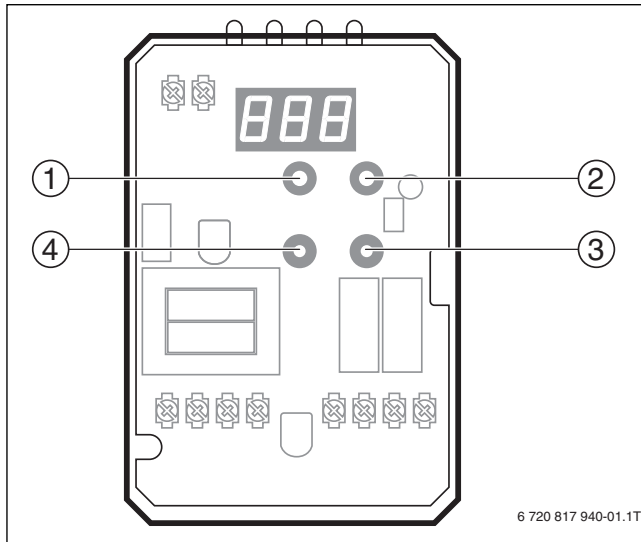

Fig. 5 Control panel Hydrostat® Hydrolevel
- ▶ Use the corresponding limit switches (→ Fig. 5) to choose the needed operation mode (cold start or warm start operation).